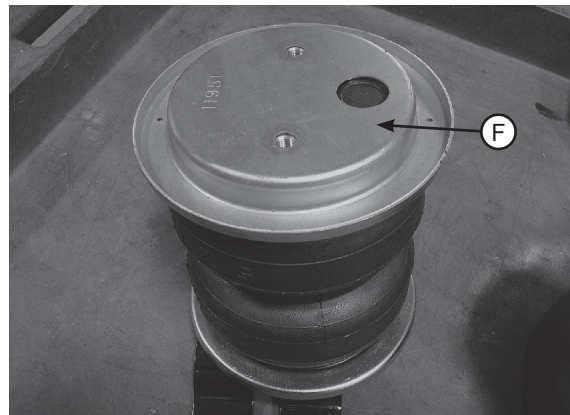

fig. D.8
- Flip the assemblies over and set a roll plate (F) onto the bottom of the bellows (Fig. D.8).